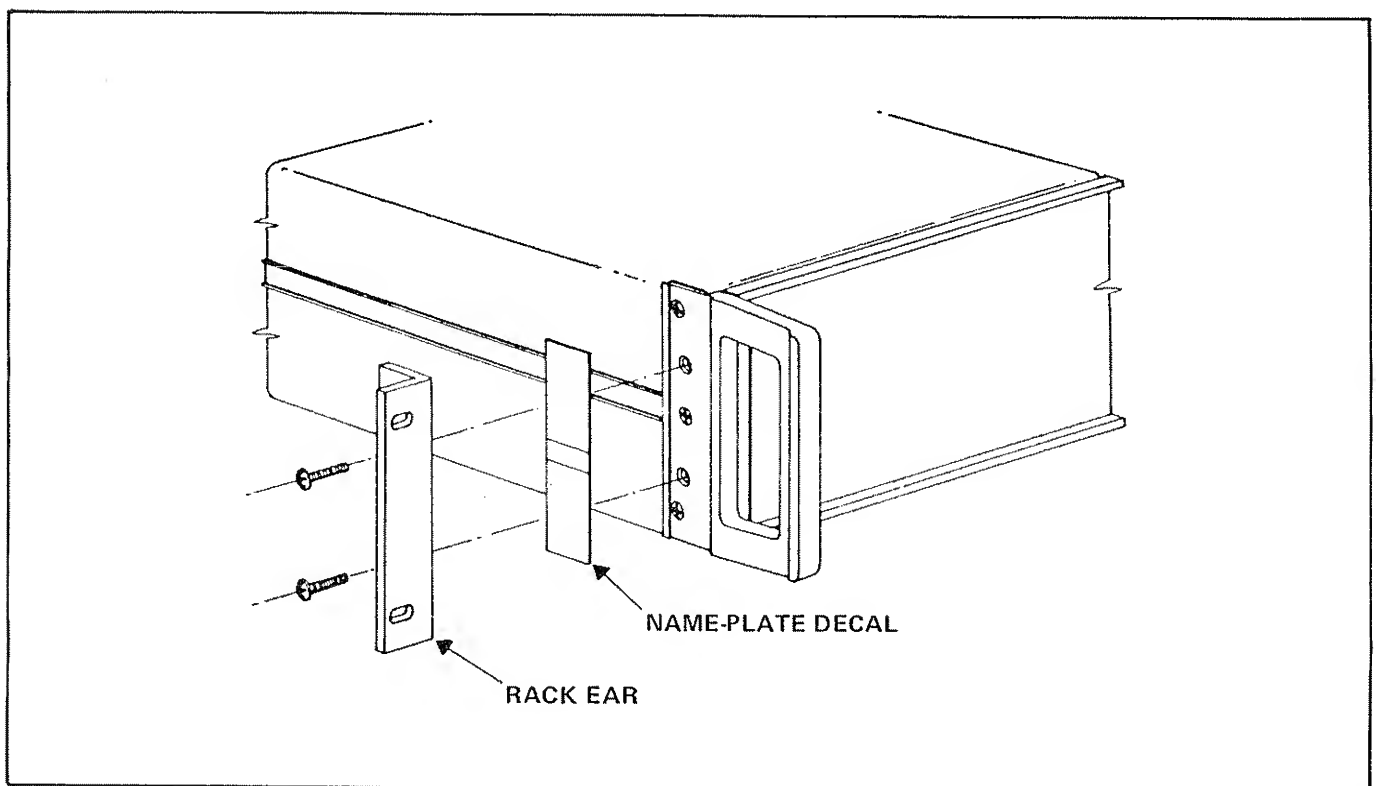

Figure 6-2. RACK EAR INSTALLATION.
- b. Peel off name plate decals from the corner of the instrument (s). See Figure 6-2.